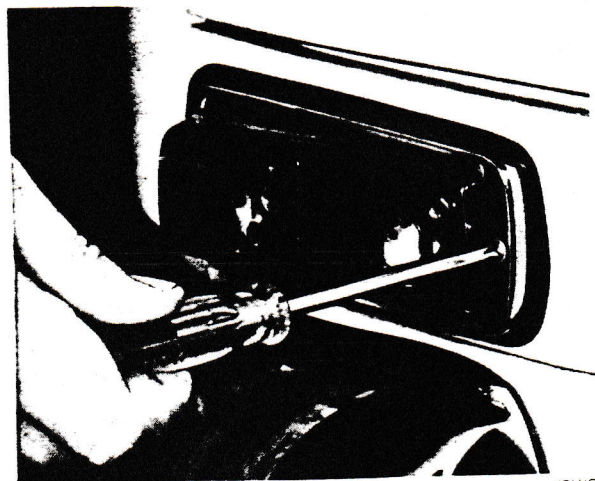

Fig. 87. Removing the glass
1. Remove the glass, see Fig. 87.